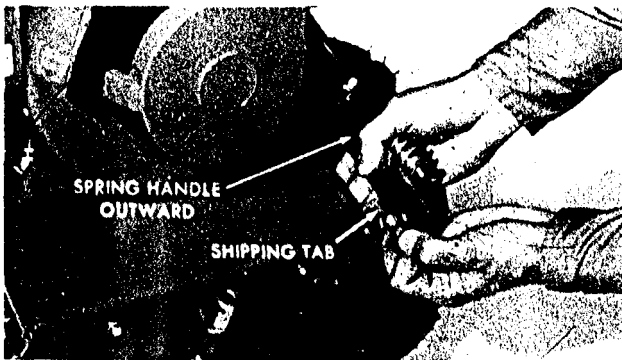

Figure 1
2. Spring the ends of the handle outward to disengage it from the shipping tabs as shown in Figure 1. Remove the handle carefully from the machine.